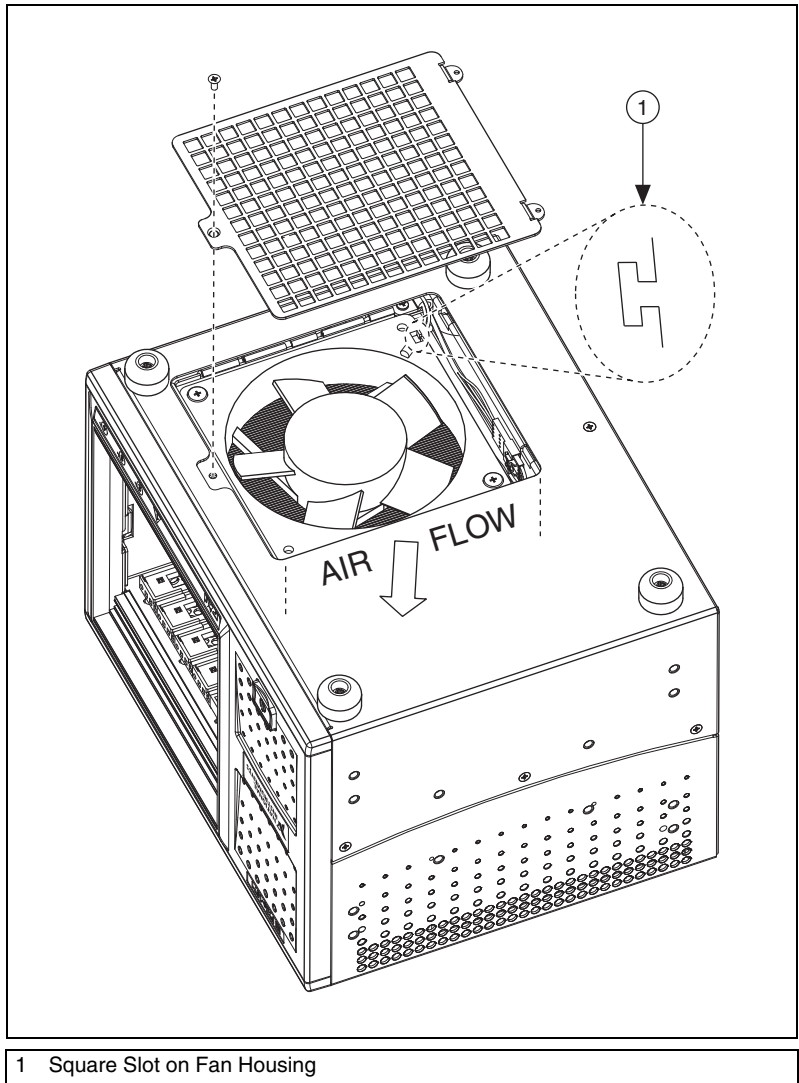

Figure 3. Square Slot on Fan Housing
5. Connect the new fan to the inline connector. Place the fan inside the fan bracket with the square slot oriented as shown in Figure 3. The air flow direction is into the chassis, so the plastic grill and label on the fan should face toward the PXI card cage.